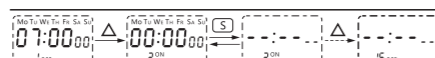

Figure 11 LCD display (the remaining timing setting time is eliminated)
3.2.2.4.3 Continue to press the "△" key to display in sequence (2 ON, 2 OFF ... 16 ON, 16 OFF). Refer to the above steps to set the switch time and week mode for the remaining groups. Save, then press "OK" to exit. For the extra time period, please press the "S" key to eliminate the remaining groups of time and make the LCD display "--:--:--", as shown in Figure 11. Press the "S" key again to resume.